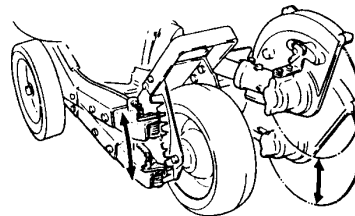

Fig. 19
- b. Cutting depth is controlled by adjust lever on left handle, by changing lock plate position, nine steps of cutting depth can be obtained. (Fig. 19)